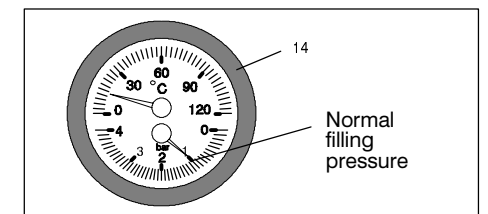

fig. 2.2
you should check that the pressure on the temperature and pressure gauge (fig. 2.2 on page 3) is not outside the correct range.
it is necessary to top up the appliance with water again, so as to raise the pressure to an adequate level. (see fig. 2.2 on page 3).
Ensure that the heating circuit is regularly filled with water (even if the boiler is only used for domestic hot water supply) checking that the pressure indicated on the temperature and pressure gauge (14) is not lower than that shown in fig. 2.2.
If the pressure reading on the pressure gauge is below that shown in fig. 2.2, than the system will require topping up. A filling loop is normally provided by the installer for this purpose.
- 2 Open the valves of the filling loop and watch the gauge until it reaches normal filling pressure as shown in fig. 2.2.